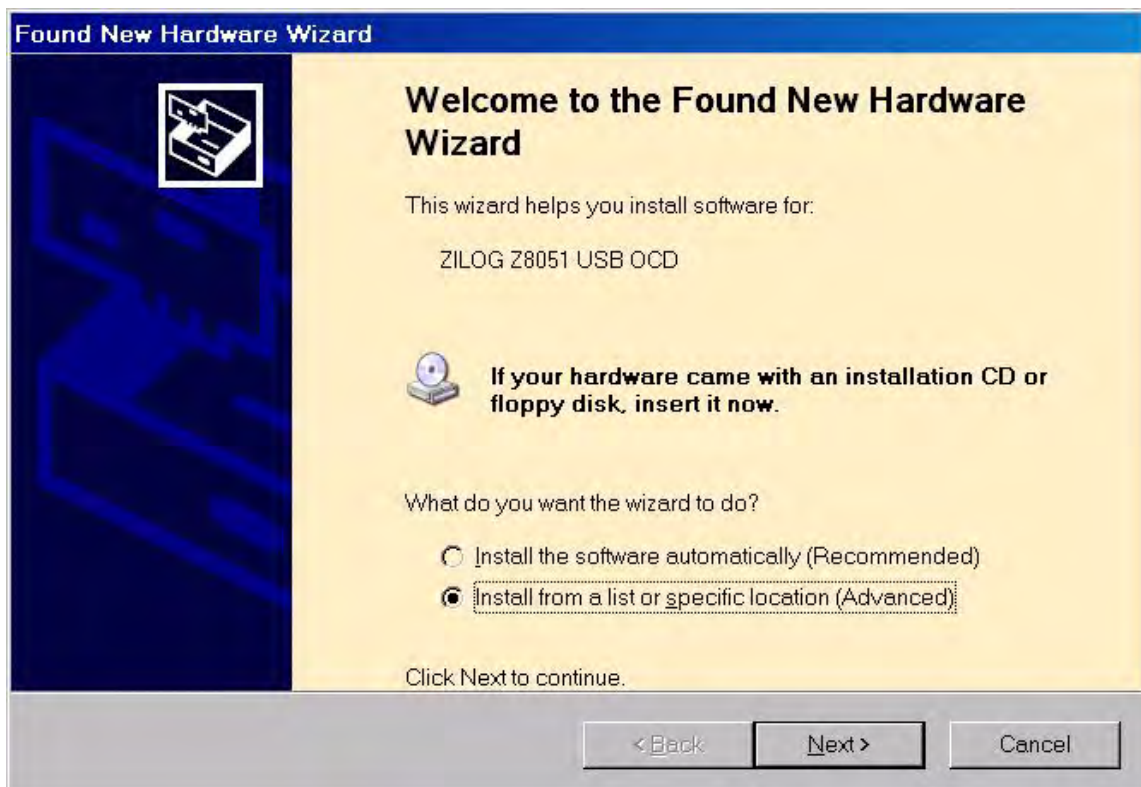

Figure 37. The Found New Hardware Wizard Welcome Screen
2. After the PC detects the new hardware, it will display the **Found New Hardware Wizard** dialog box, shown in Figure 37. Select **Install from a list or specific location (Advanced)**; then click **Next**.
► **Note:** On some installations, the Found New Hardware screen shown in Figure 37 may also display the text string, *Zilog Z8051 USB OCD - No Firmware*. This occurrence is normal and can be disregarded.